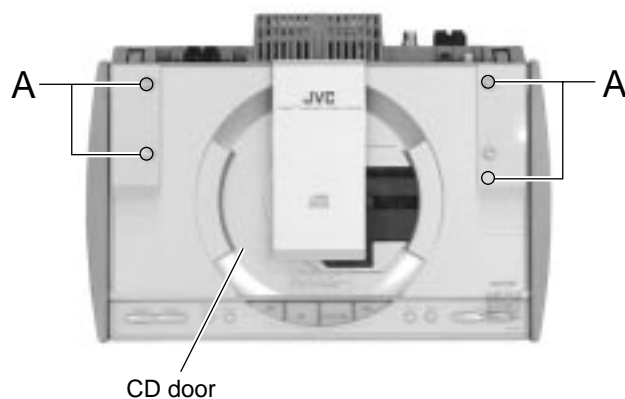

Fig.1
■Removing the CD door (See Fig.1)